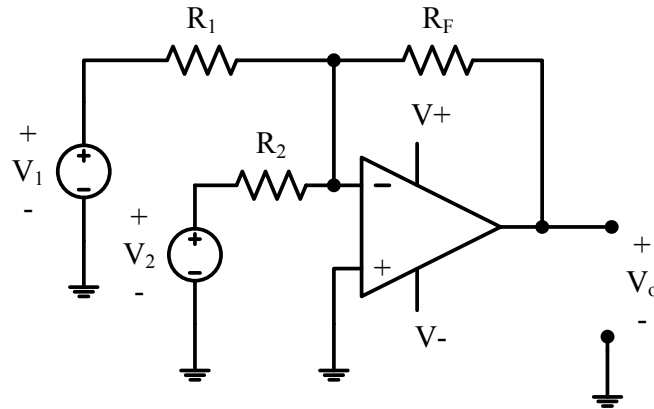

Figure 4: Op amp connected as a summing amplifier.
3. An example of the **summing amplifier** is shown schematically in Figure 4. The output voltage is the sum of the input voltages with the sign inverted. The output voltage V_o in Figure 4 is given by
The summer provided in Figure 4 can be modified to provide three or more inputs.